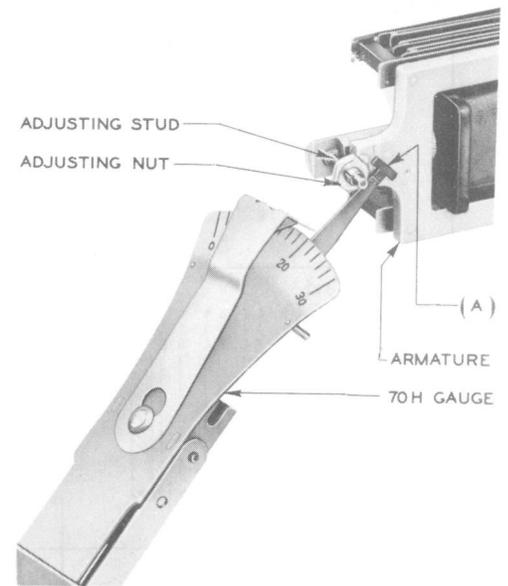

Fig. 10—Method of Checking Armature Back Tension
2.14 Armature Back Tension: Fig. 10(A)—The armature shall be held against the backstop with a pressure of
Use the 70H or the 70J gauge applied to the back of the armature at a point approximately midway between the points where the stop pins are normally located as shown in Fig. 10. When making this check, do not remove the pressure of any contact spring against its associated card.